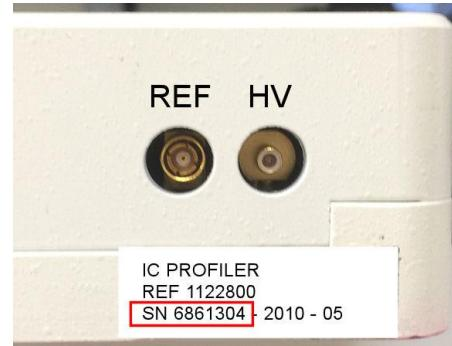

Figure 23: IC Profiler SN Label
4. Select the appropriate **Analysis** files for the serial number of the IC Profiler unit (Figure 23), and click **OK**.